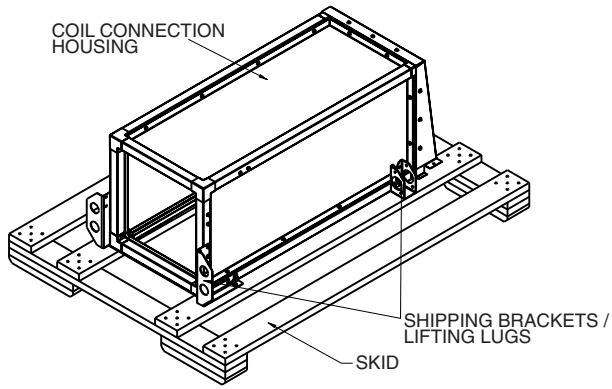

Fig. 38 — Coil Connection Housing
1. Coil connection housing (CCH) will be shipped to the job site on its own skid, separate from the air-handling unit as shown in Fig. 38.